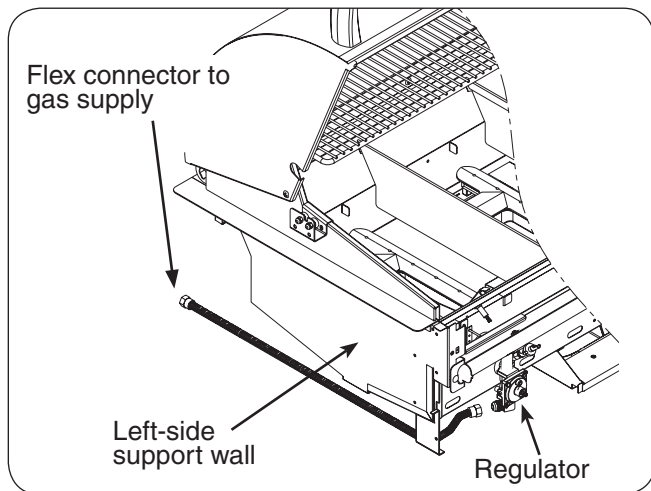

Fig. 10-1
- e. Bring the flex connector under the left-side support wall of the frame (Fig. 10-1) and through to the regulator on the valve manifold.